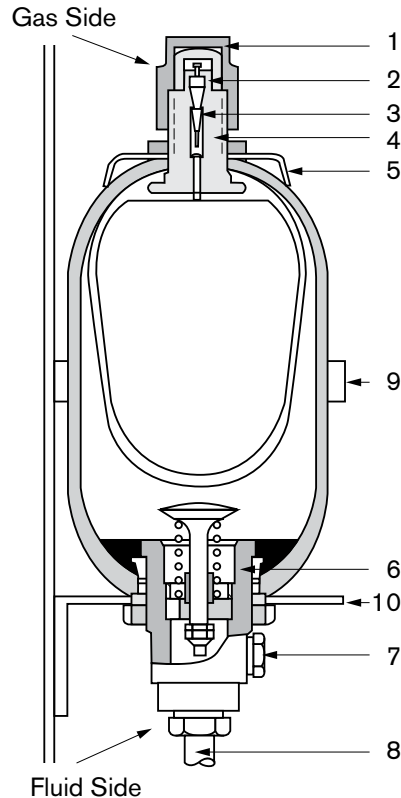

Fig.1 – Typical Bladder Accumulator Installation
Unscrew the charging and testing device and replace the valve guard and cap (see Fig. 1, Item #1 & #2) A check for leaks with a soapy solution should follow. If a leak is found, it should be repaired following recommended repair procedures. If the gas valve core is replaced, use only valve cores approved for accumulator service, **NEVER USE AN AUTOMOTIVE TYPE VALVE CORE.**
**The operator should never attempt to adjust, loosen, or remove the bleeder port plug (page 21, figure 1, item #7) without completely depressurizing the system. Installing replacement bleeder plugs not approved or supplied from the manufacturer is strictly forbidden.**